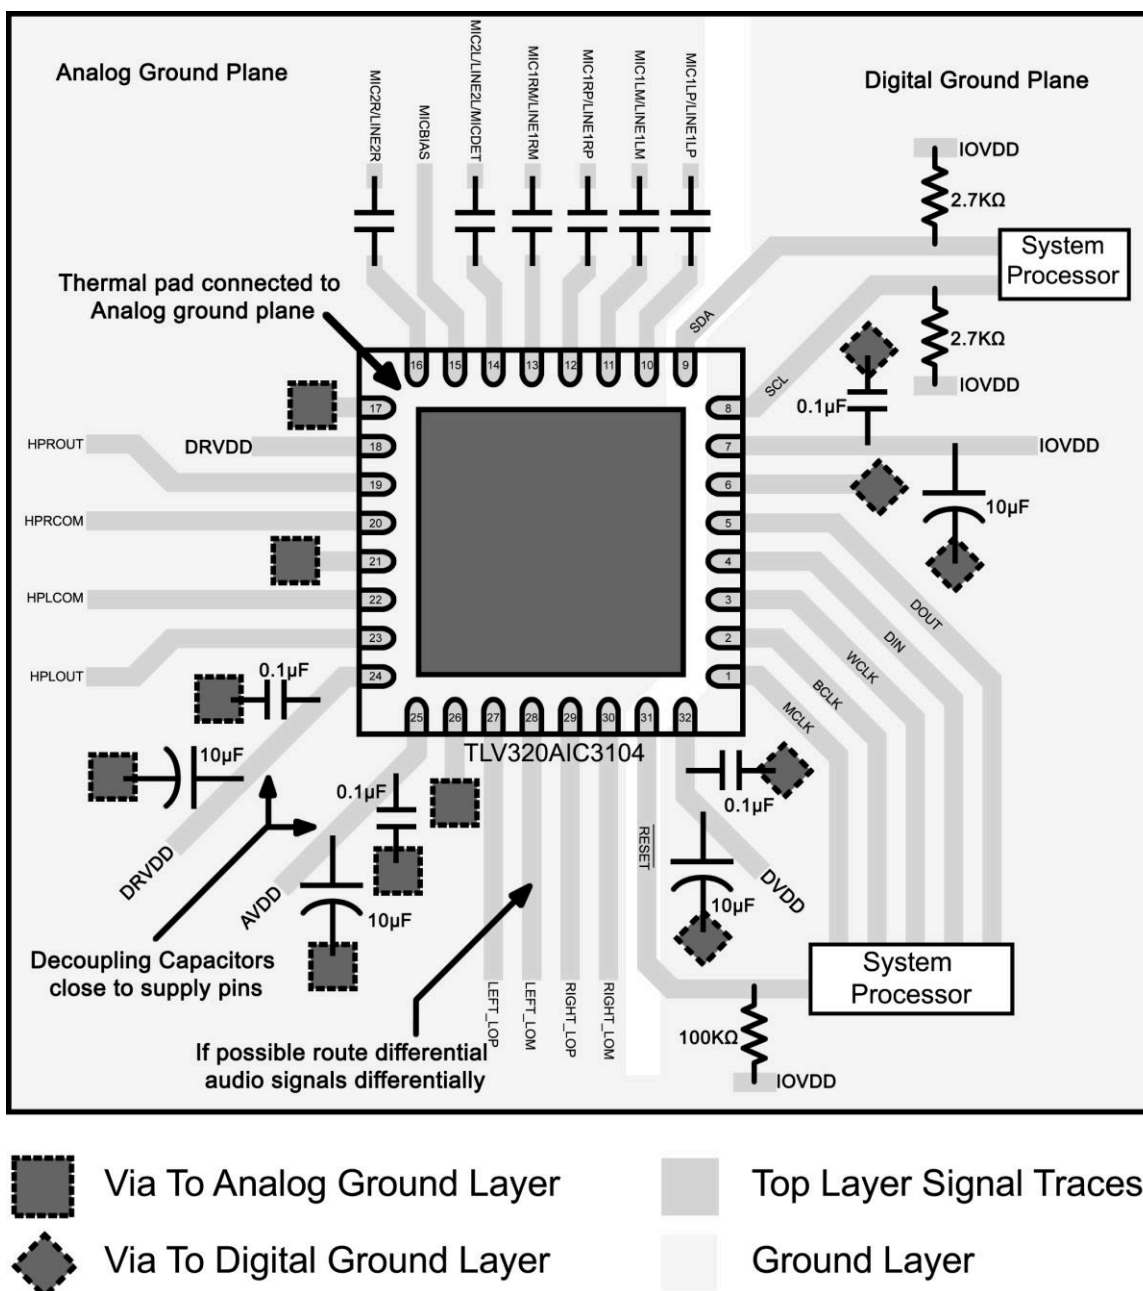

图 13-1. Layout Example
- Following the recommended component placement, schematic layout and routing given in 图 13-1, integrate the device and its supporting components into the system PCB file.